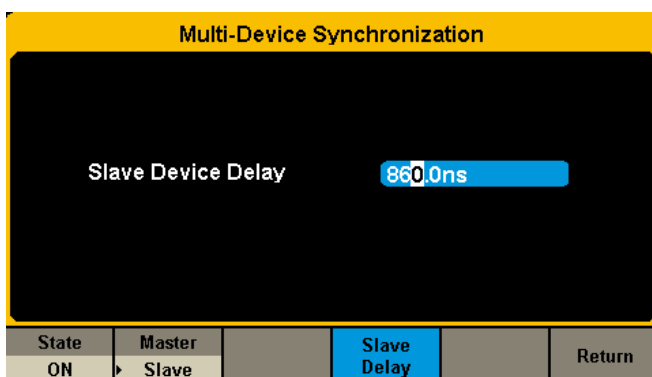

Figure 10. Eliminate the Slave Delay
2) Enter the absolute Mean value of Skew into Slave Device Delay. This will eliminate the delay between traces that we observed with our oscilloscope. See Figure 10.